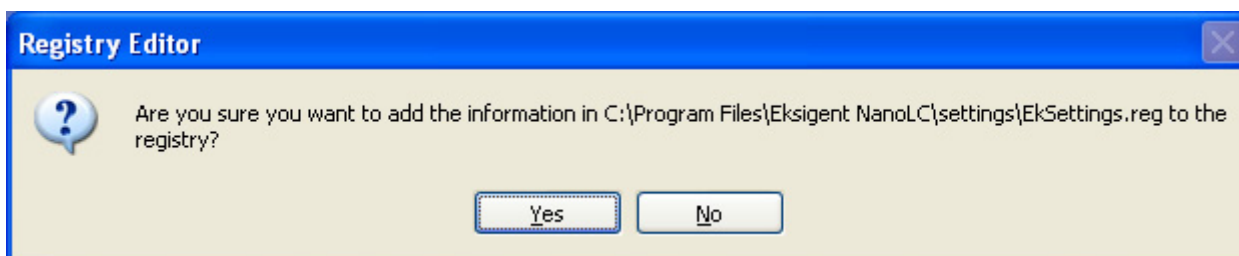

Figure 2-4. First Registry Prompt Window
- step 4* Double click on the file 'EKsettings.reg' to install the instrument settings into the registry of the computer. A window will pop up asking you if you really want to write to the registry (Figure 2-4).